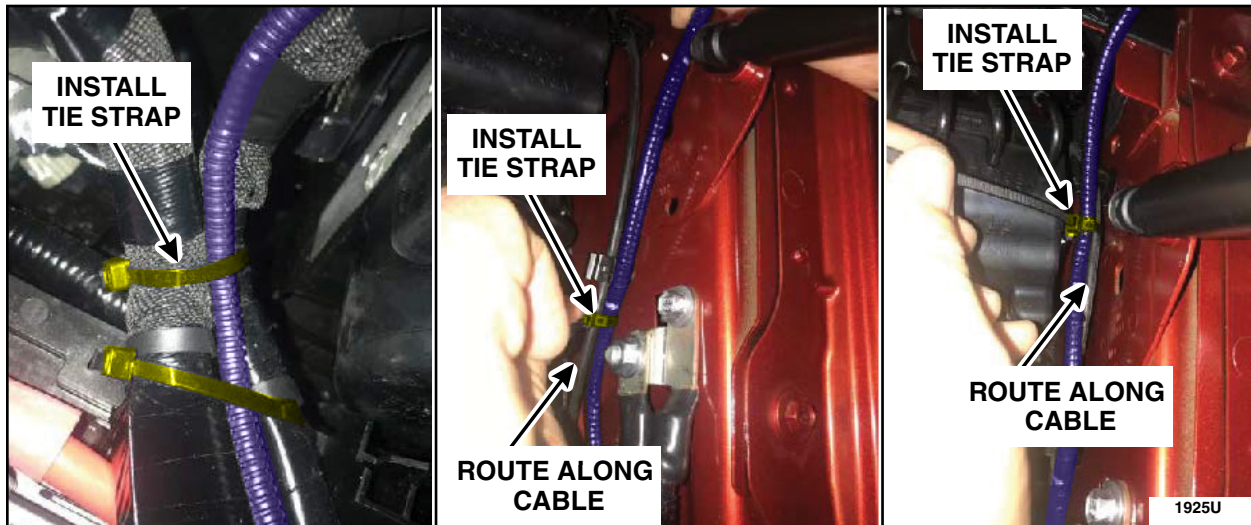

FIGURE 18
19. Install tie straps along the hood latch cable to secure the new wire to the vehicle. See Figure 18.